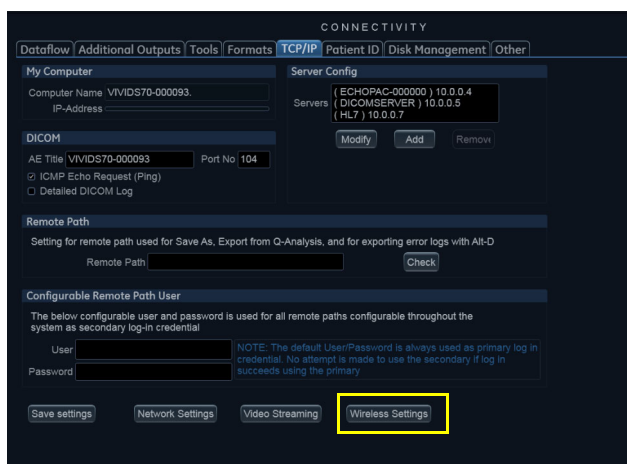

Figure 3-33 Connectivity - TCP/IP Tab
- 5.) Click the **Wireless Settings** button - see Figure 3-33.